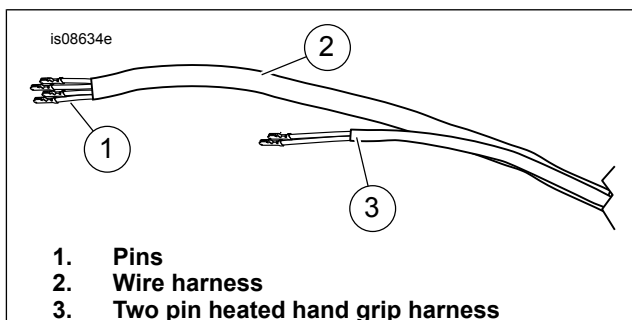
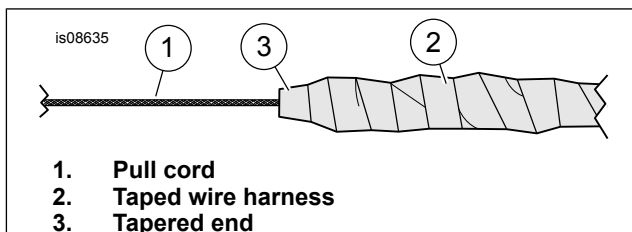

Figure 1. Pins and Wire Harness
Figure 2. Trim Rings and Adhesive
5. See Figure 1. Stagger the pins (1) so they are not in the same locations along the harness (2). See Figure 2. String a suitable cord (1) through the handlebar. Tie the cord to the wire harness. Wrap tape (2) over the harness and pins. Tape should come to a taper (3) and be flexible to ease pulling through the handlebar. Pull the cord through the bar to route the wire bundle to the proper exit point.